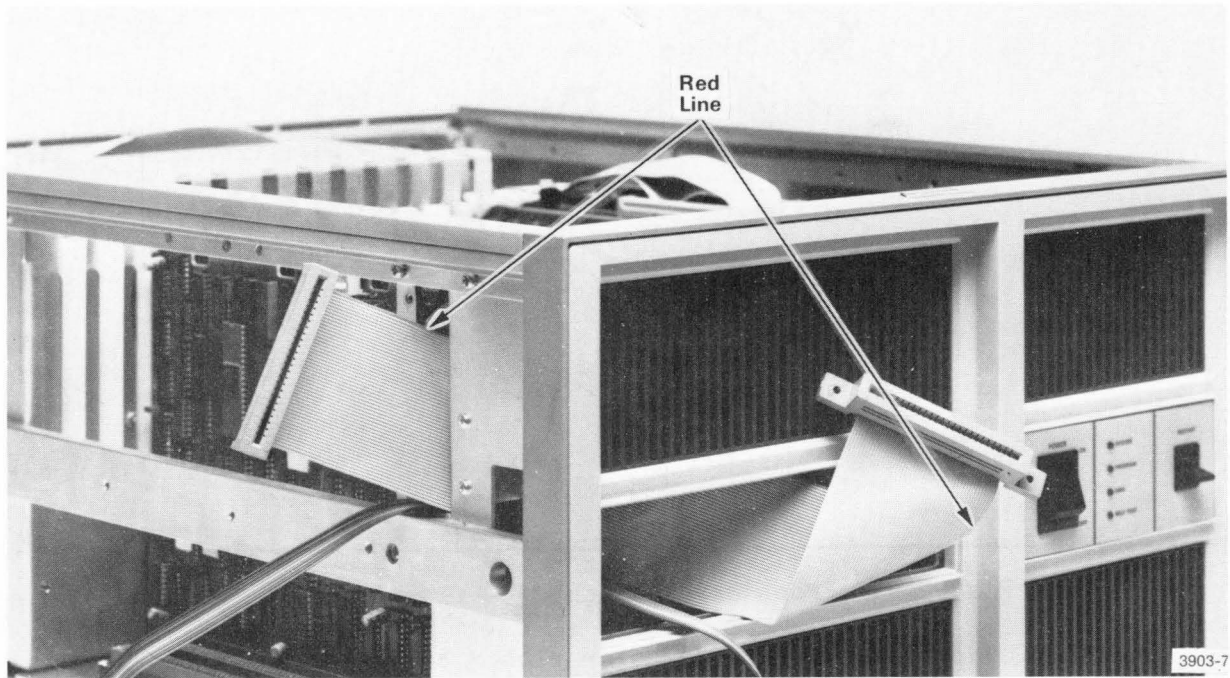

Fig. 2-4. Folding the flat cable.
3. Grasp the end of the 50-conductor cable that is protruding from the front panel opening. Fold this end of the cable up and to the right 90 degrees, as shown in Fig. 2-4. Carefully make a crease on the fold line.